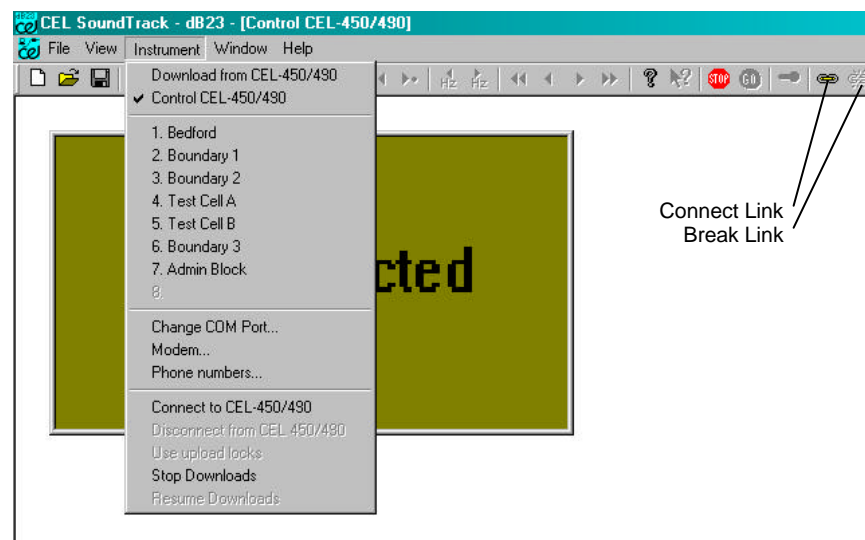

Figure 2: The full Instrument menu
Or, select the Instrument menu and see additional entries, like the example shown in Figure 2, then go to step 4.
5. When dB23 has been set up to control up to eight sound level meters connected via GSM modems and landline modems, tick (0) instrument 1 to 8 on the menu list of currently connected instruments (see Figure 2).
3. Press the **Connect chain** button on the top button bar (Figure 2) to connect directly with the ticked (0) entry on the **Instrument** menu, (ticked as described in steps 4 and 5), then go to step 7.
Or, select the **Instrument** menu and see additional entries, like the example shown in Figure 2, then go to step 4.
4. When dB23 has been set up to download data from a local sound level meter connected directly to the PC, tick (0) the **Control CEL-450/490** entry.
5. When dB23 has been set up to download data from up to eight sound level meters connected via GSM modems and landline modems, tick (0) instrument 1 to 8 on the menu list of currently connected instruments (see Figure 2).